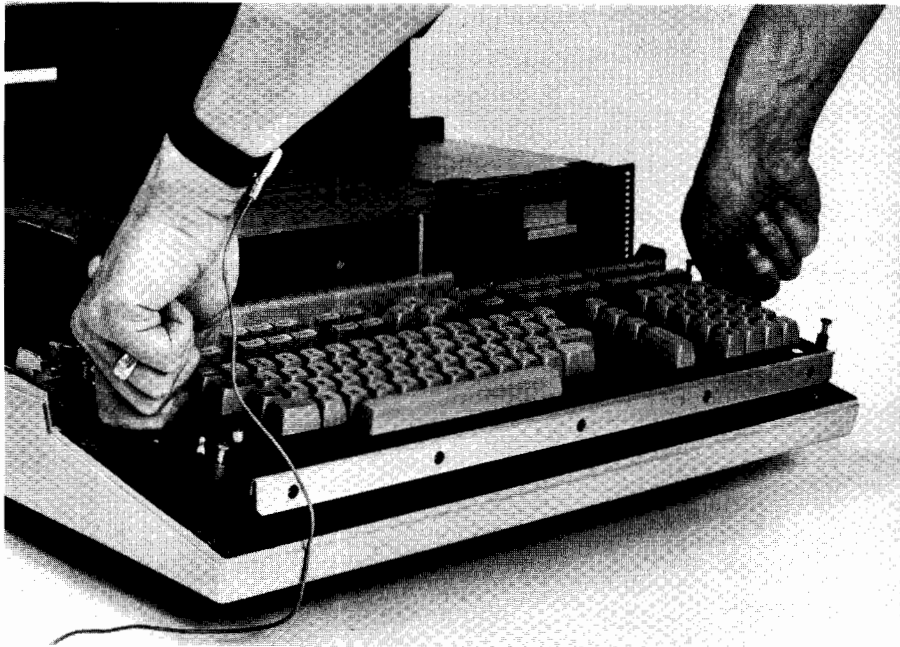

Figure 4-31. Removing Keyboard
5. Grasp keyboard by round handles as shown in Figure 4-31 and lift keyboard up and away from computer.